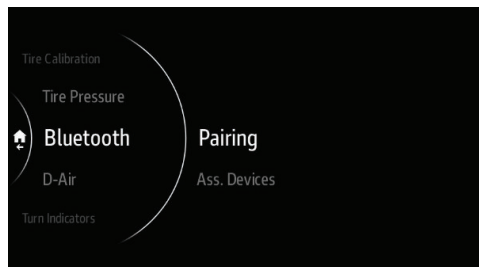

Fig 41
- Select “Pairing” (Fig 41) and press the joystick in the middle or in the RH ► position.